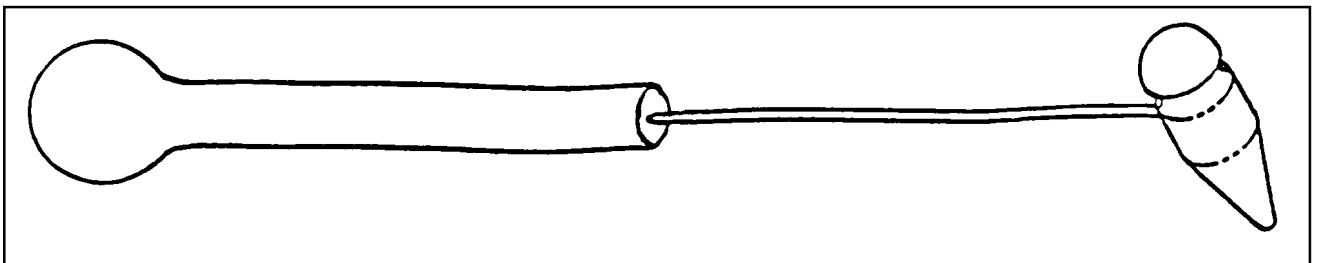

FIGURE 5-22. Sample of special tap hammer.
a. The tap testing procedure consists of lightly tapping the surface of the part with a coin, light special hammer with a maximum of 2 ounces (see figure 5-22), or any other suitable object. The acoustic response is compared with that of a known good area.